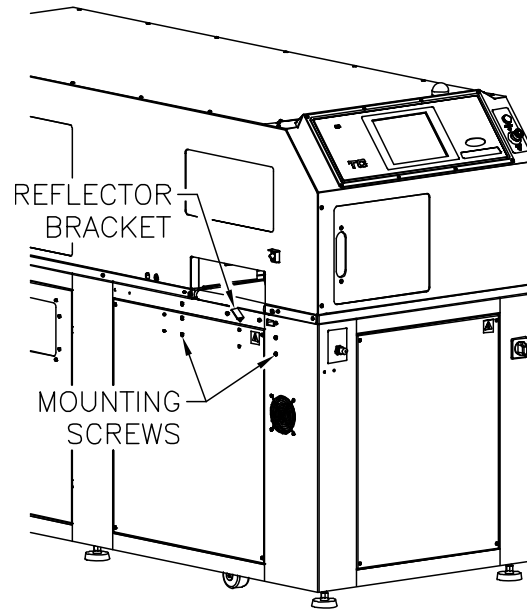

Figure 2-27. Hand Feed Mounting Hardware
2. Remove (4) sets of screws and washers fastened to the left side of the trimmer as shown in Figure 2-27. Save them for later use.
3. Make sure the reflector bracket is in place as shown in Figure 2-27.